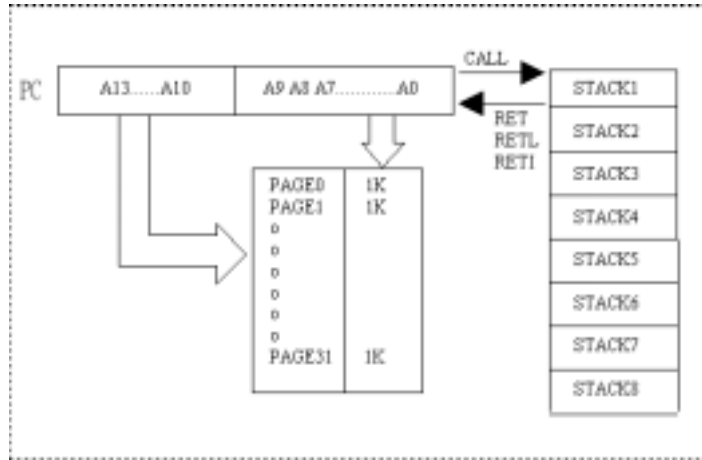

Fig.3 Program counter organization
* The structure is depicted in Fig.3 .
- Refer to fig.3